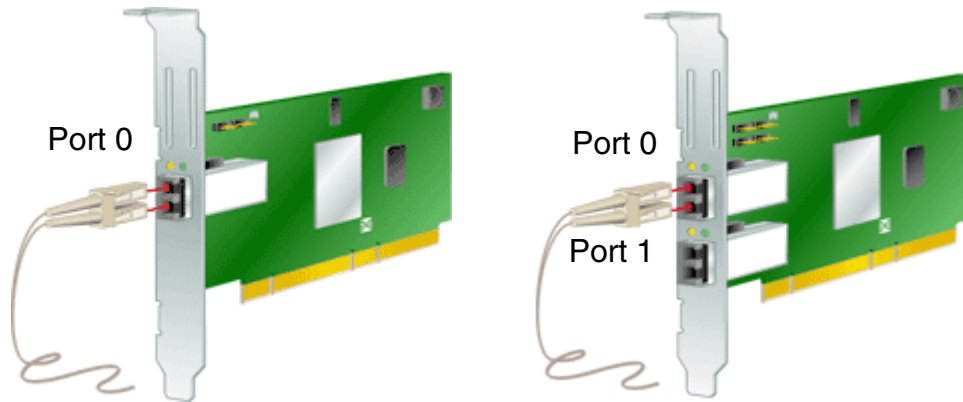

FIGURE 3 Attaching the Optical Cable
1. Connect the fiber-optic cable to an LC connector on the HBA (see FIGURE 3).